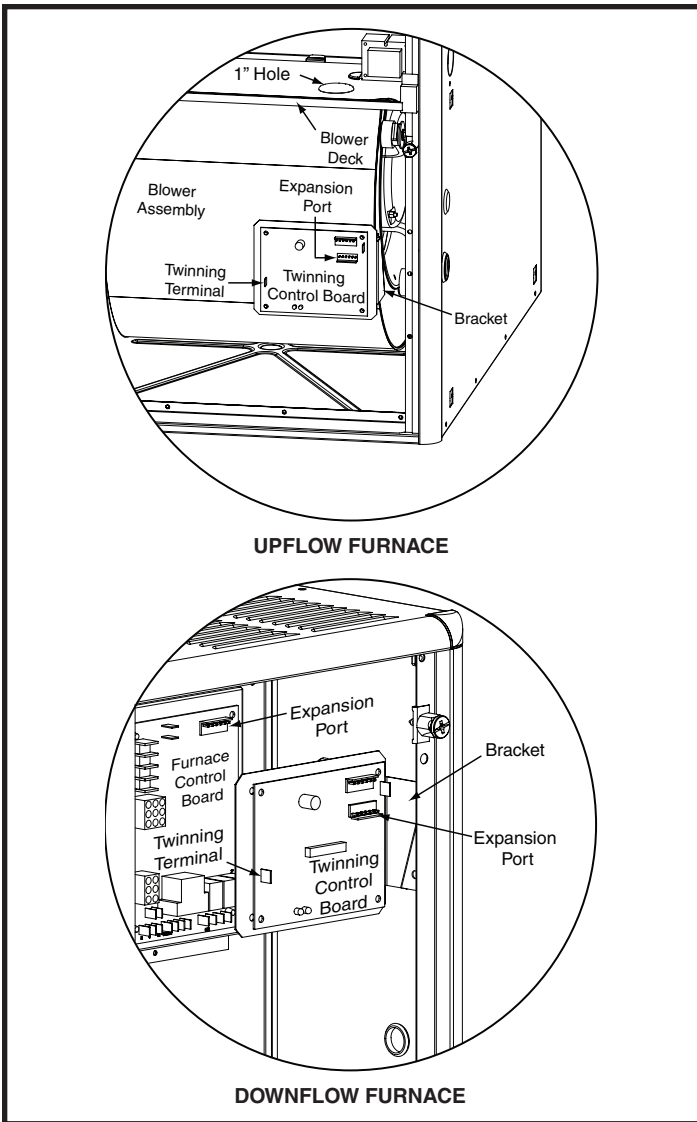

Figure 1. Installation of Twinning Control Board
3. Mount the board and bracket in each furnace. See Figure 1 for placement of twinning board according to furnace type.